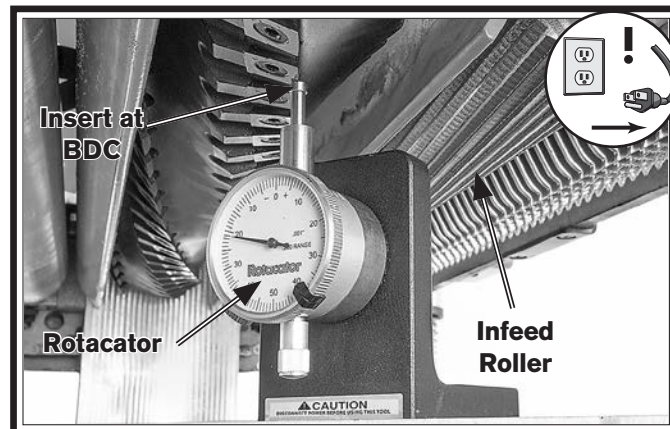

Figure 51. Example of using a Rotacator to find BDC.
5. Using your Rotacator, find bottom dead center (BDC) of any insert edge by slowly rocking cutterhead pulley back and forth, then set Rotacator dial to "0" (see **Figure 51**).